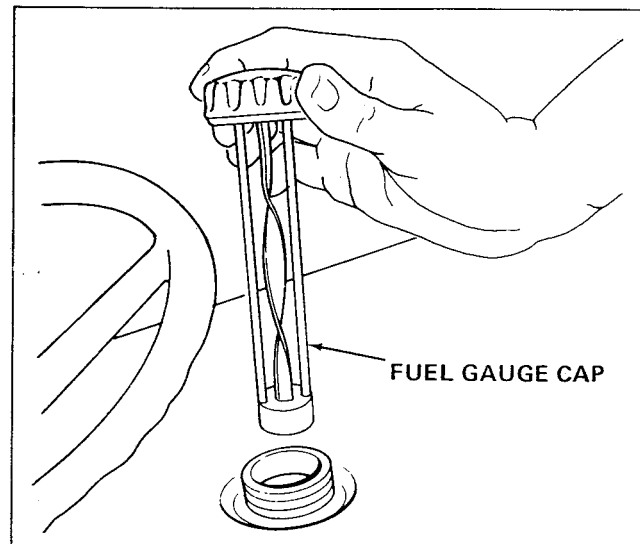

Figure 2. Remove Fuel Gauge Cap
- a. Remove fuel gauge cap as shown in figure 2.